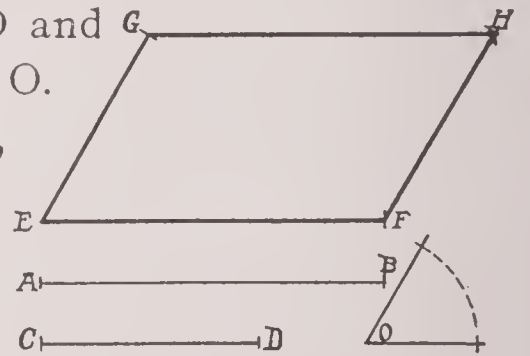

Fig. 17
17. To draw a parallelogram, when adjacent sides and the included angle are given (Fig. 17):